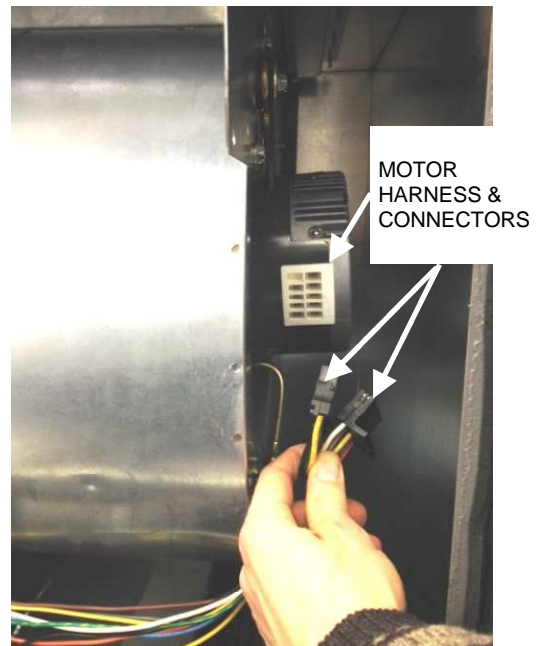

Figure 16
1. Disconnect wiring harness plugs from motor (Fig. 16 and 17).